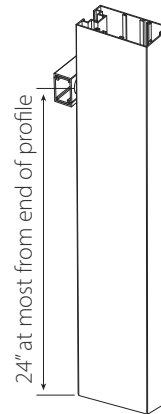

Figure 1a
- The lower installation rail should be no more than 24" away from the end of where the STYX™ profiles will line up (Figure 1a)